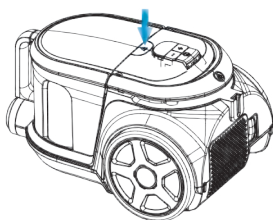

Fig. 7
1. As in Fig.7, hold the dust chamber and handle and push the release button.